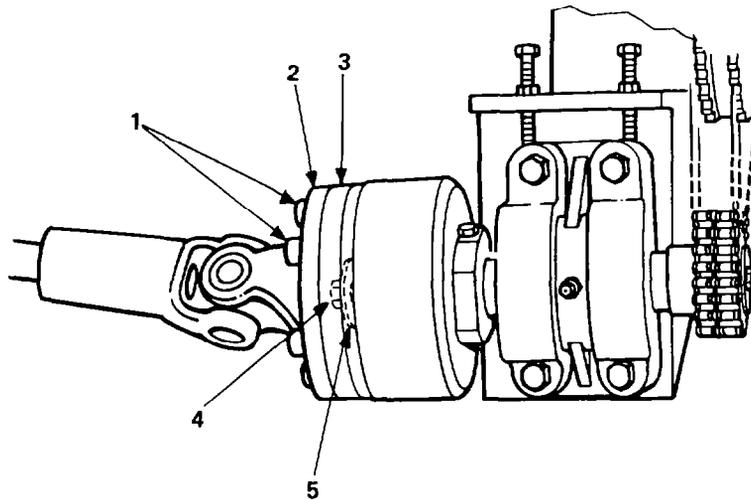

Fig. 386 — Torque Limiter
- a. Remove the six socket-head bolts (fig. 386, item 1) from the drive shaft yoke adapter. Tie the drive (propeller) shaft out of the way.